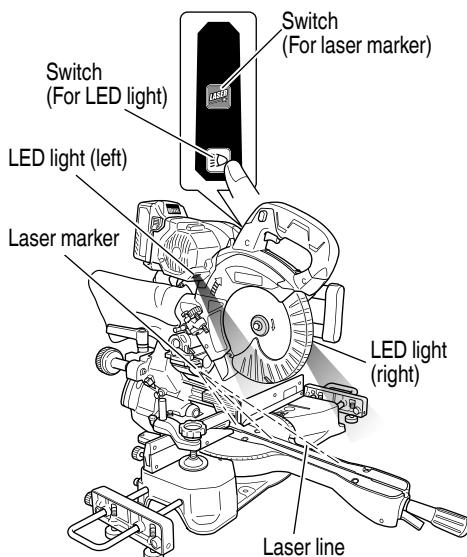

Fig. 27
## (2) Turning the laser guide / LED light on (Fig. 27)